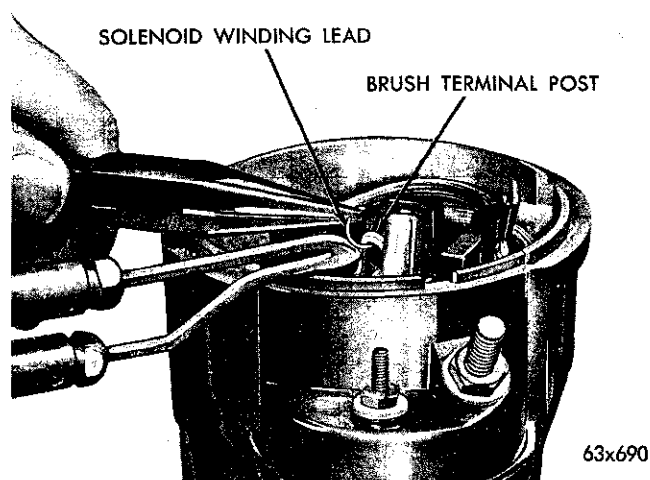

Fig. 5—Unsoldering the Solenoid Lead
(9) Unsolder the solenoid winding from the starter brush terminal (Fig. 5).